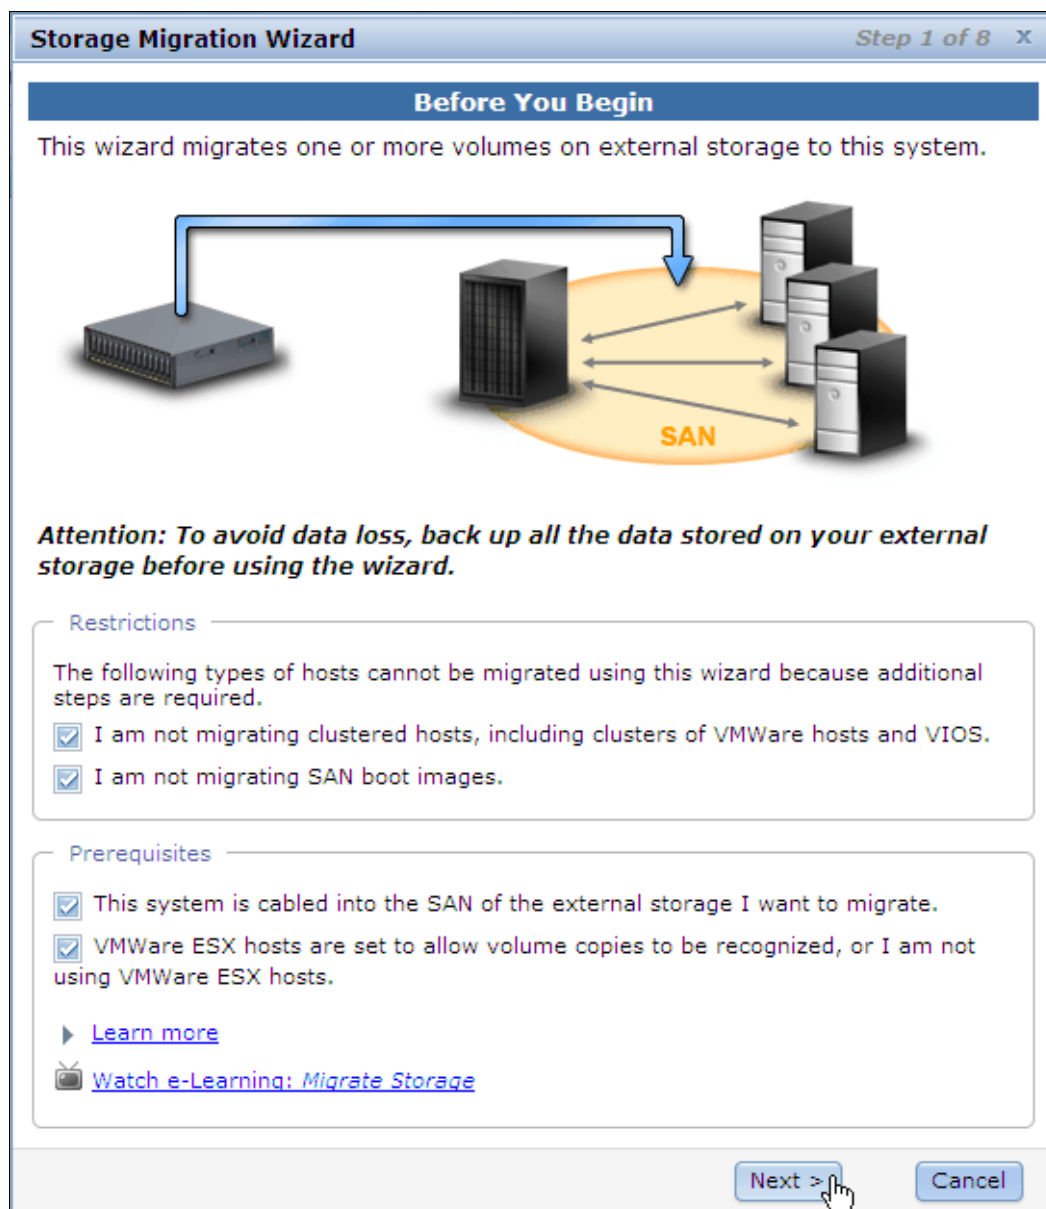

Figure 6-24 Storage Migration wizard: Step 1
4. Follow step 1 of the wizard and select all of the restrictions and prerequisites, as shown in Figure 6-24. Click **Next** to continue.